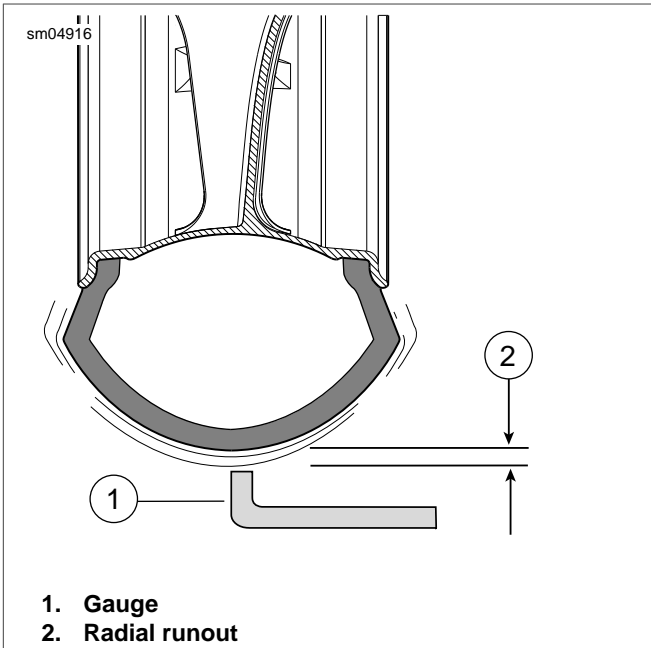

Figure 2-30. Radial Runout
- See Figure 2-30. Turn wheel on axle and measure tread radial runout.